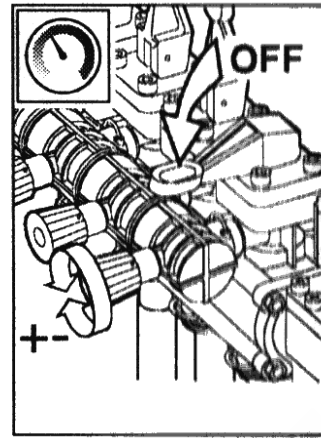

Figure 19 Working sections of the control valve (valves, sectional)
- g) Close the section with a valve lever - position, OFF "(Figure 19);